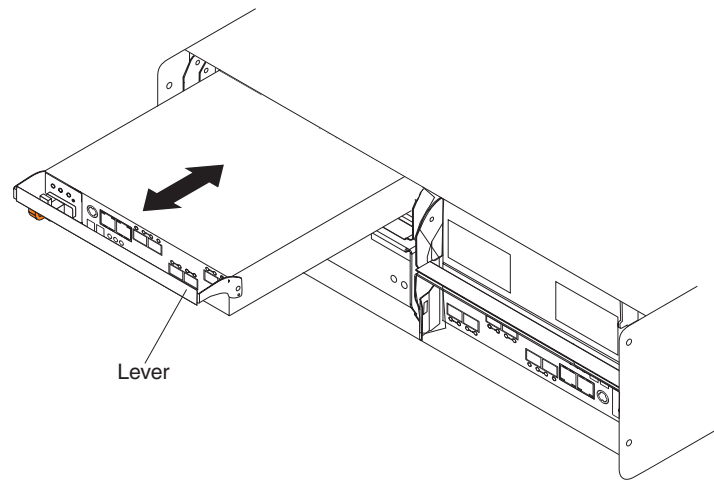

Figure 77. Removing a controller from the DS5020
9. Slowly pull the lever away from the chassis to remove the controller from the bay. Use two hands when releasing the controller levers. Figure 77 on page 125